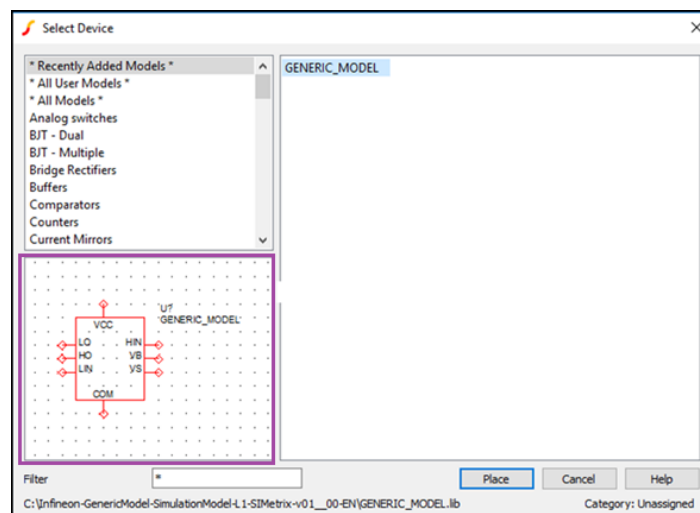

Figure 5 Associate Symbol with Model
- In the “**Recently Added Models**” section select the chosen part, e.g. **GENERIC_MODEL** and a schematic symbol will appear in the preview window, like in **Figure 5**.